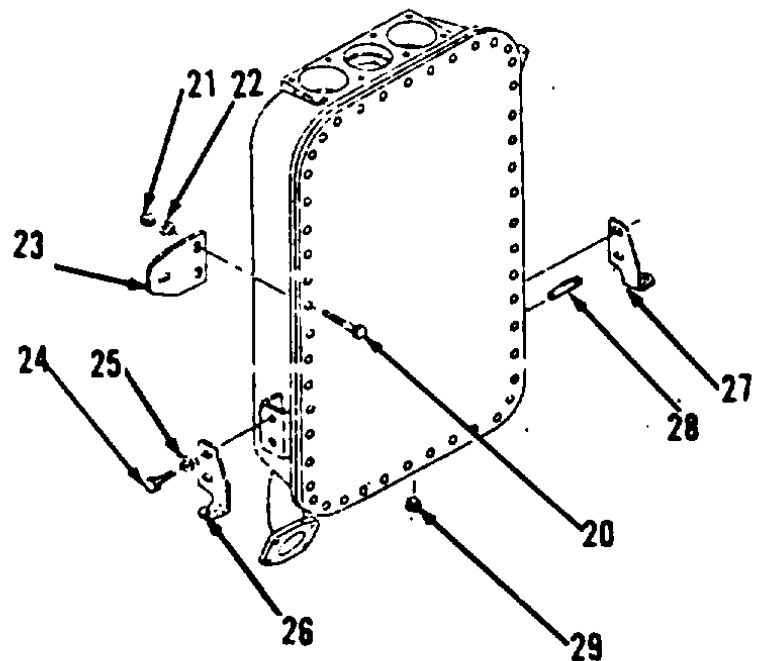

Figure 10-152.
7. Install plugs (29 and 28, Figure 10-152).
8. Install brackets (27 and 26), four washers (25) and bolts (24).
9. Install plate (23), two washers (22), nuts (21) and bolts (20). Tighten two nuts (21) to 28 ft-lb torque.